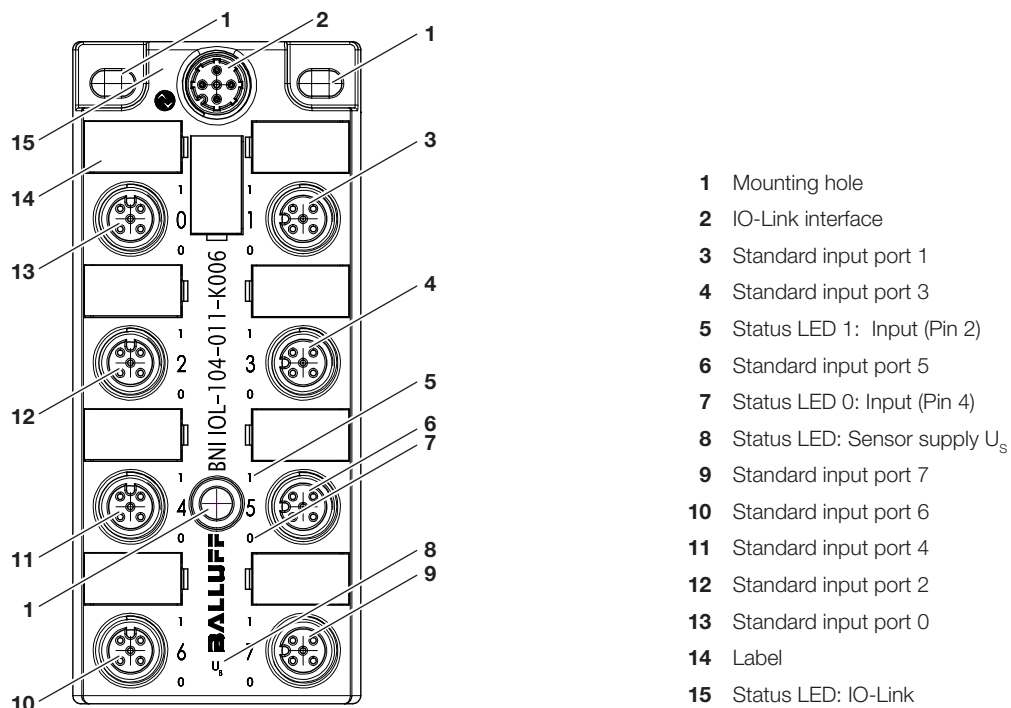

Fig. 4-2: Device overview
- Fasten the module with 3 × M4 screws using the mounting holes (see Fig. 4-2 on page 8).